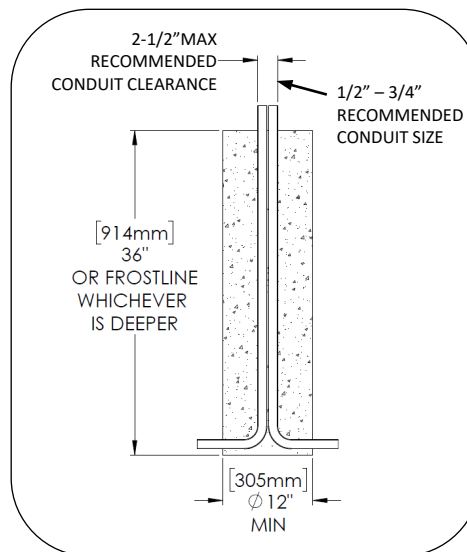
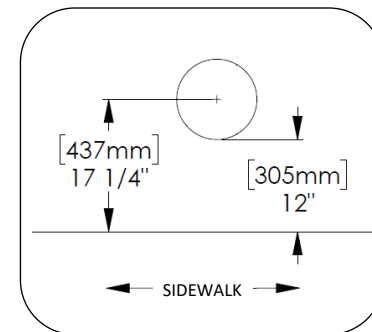
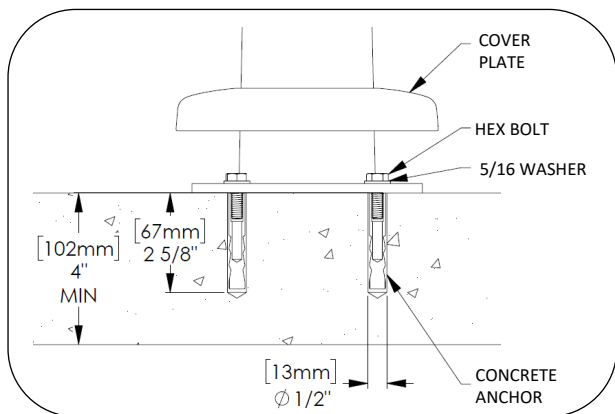

Fig. 1 – Minimum footing recommendation
Fig. 2 – Recommended setback from sidewalk
Fig.5 – Anchor detail
1. Prepare footing as required by local codes, see Fig. 1, Fig. 2 and Fig. 5 for recommendations.
4. Drill holes according to anchor size and depth, see Fig. 5. Clear holes of debris.
13. Align arrow on base plate with front location of path light. Set pole over concrete anchors and attach using hex bolts and washers as shown in Fig. 5.